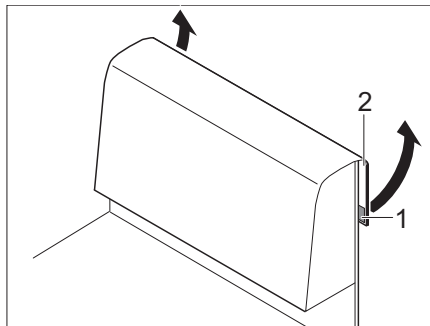

Fig. 71 Back cushion
- Loosen the Velcro fastener (Fig. 71,1) on the fabric flap (Fig. 71,2) at the back.
- Pull the fabric flap (Fig. 71,2) upwards.